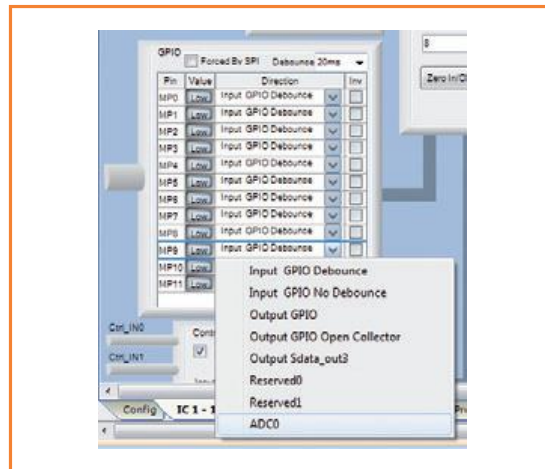

Figure 7. Let's do some GPIO configuring in SigmaStudio.
- Select MP9 In the GPIO block and change "Input GPIO Debounce" to "ADC0", then return to "Config" tab as illustrated in **Figure 7**.